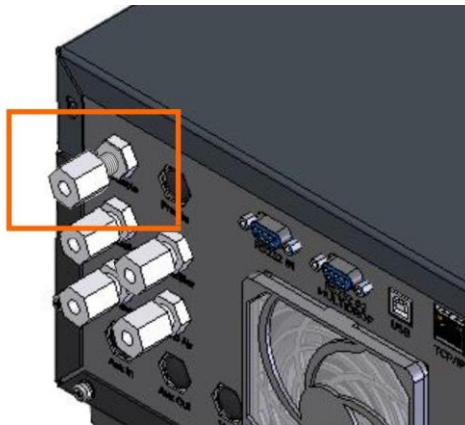

Figure 22 – Replace Nut Loosely
4. Refer to Figure 22. Replace the nut loosely, only 2 or 3 threads, on the sample port.